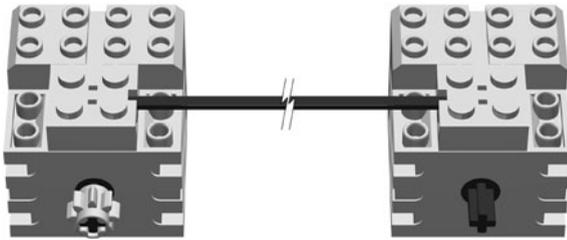

Fig. 11-6. Motor as generator.
**Try This:** If you hook two motors together, when you turn one of them by hand, the other one turns by magic (Fig. 11-6). Well, by electricity, though Sir Arthur C. Clark once said that *any sufficiently advanced technology is indistinguishable from magic*. The difference is in how well we understand what we are seeing.
The system shown in Fig. 11-6 is a form of *servomechanism*, or *servo*. A servo is a system that provides controlled motion at a distance, typically using feedback. The generator/motor pair is crude, but the output motor does mirror any motion from the input generator. A true servo system would mirror the input position even in the face of resistance, using an internal